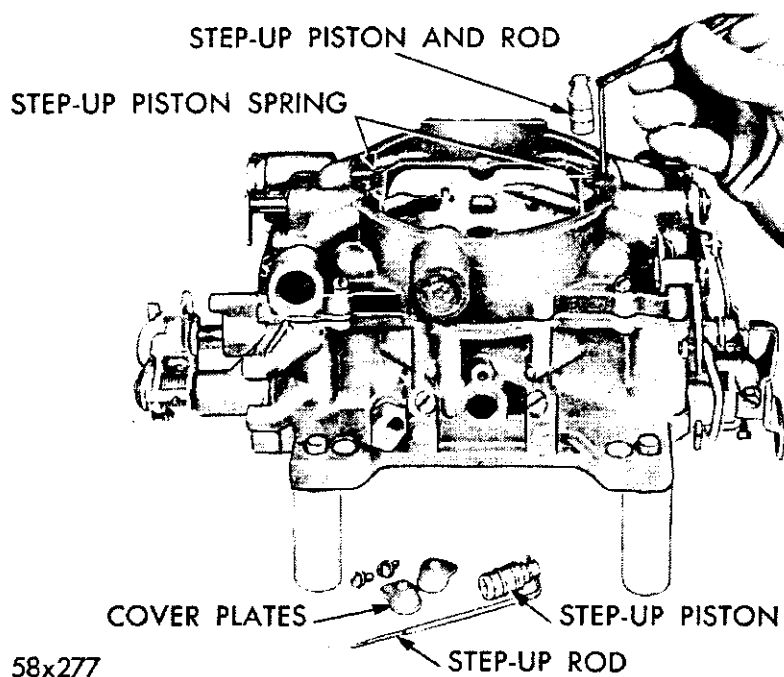

Fig. 2—Removing the Step-Up Pistons and Rods
(5) Lift off the plates and slide the step-up pistons and rods out of the air horn, as shown in Figure 2. Remove the step-up piston springs.
(6) Remove the ten screws that attach the air horn to the main body (1 screw in hole in air horn). Lift air horn straight up and away from the main body.